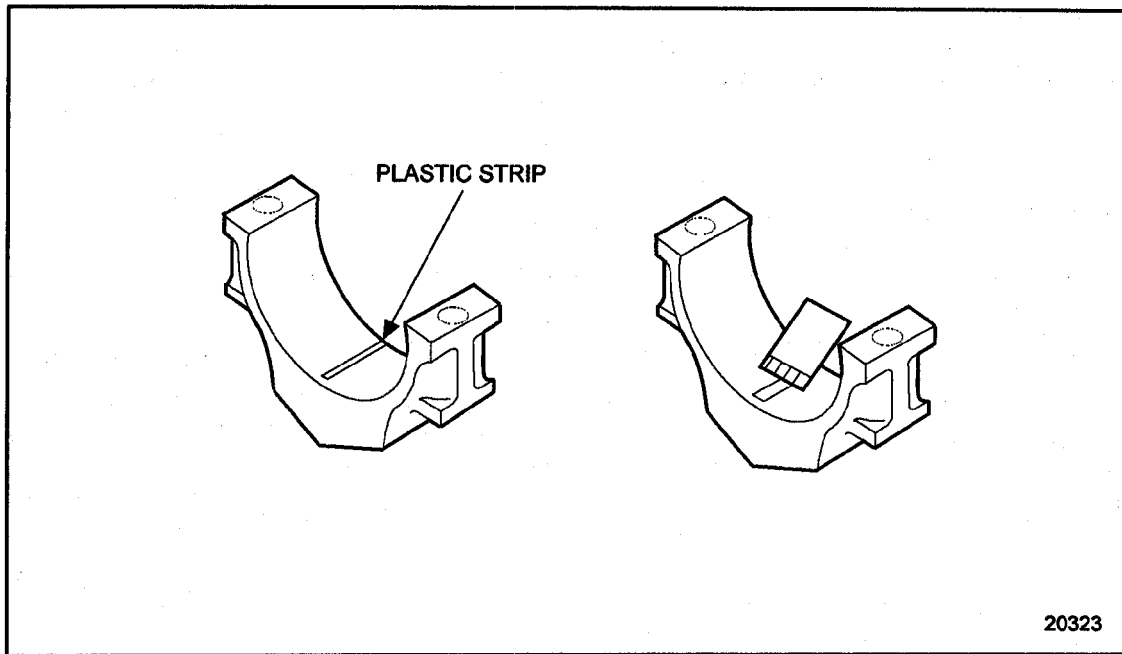

Figure 1-461 Using Plastic Strip to Measure Bearing-to-Crankshaft Clearance
2. Place a piece of plastic strip the full width of the bearing shell, about 1/4 inch off center. See Figure 1-461.
5. Compare the width of the flattened plastic strip at its widest point with the graduations on the envelope. See Figure 1-461. The value within the graduation on the envelope indicates the bearing clearance in thousands of an inch. To obtain metric specifications: